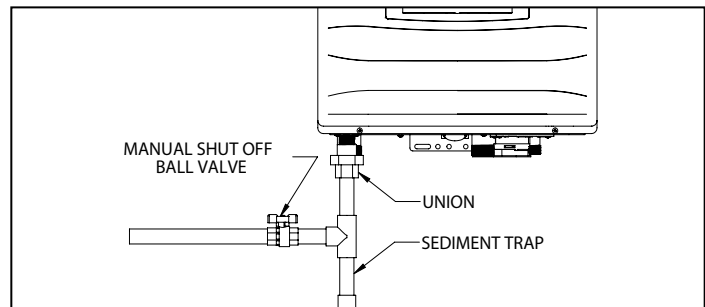

Figure 42 - Gas Line with Shut-Off and Sediment Trap Detail
- The National Fuel Gas Code (NFPA 54) requires that a sediment trap (drip leg) be installed in the gas line on appliances not so equipped. The drip leg must be accessible, a minimum of 3" in length, and not subject to freezing conditions. See Figure 42.
- A manual gas shut-off valve should be installed in the gas supply line close to the water heater. See Figure 42 for detail.